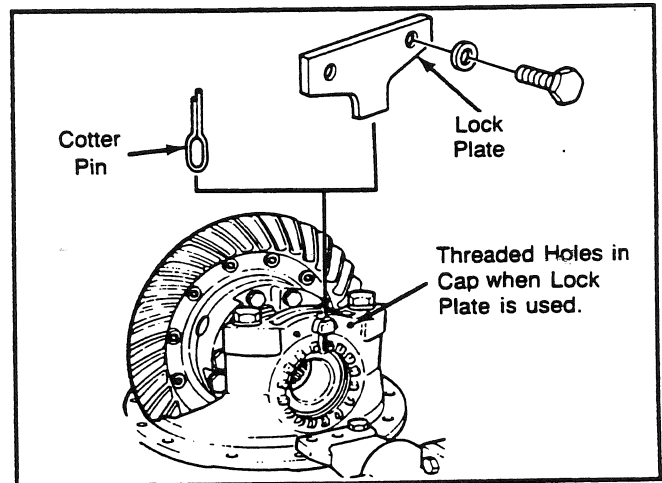

Fig. 88
- a) Install the cotter pin between the adjusting ring lugs and through the bearing cap boss. Bend the two ends of the cotter pin around the boss (see Fig. 88).
- b) Install the lock plate on the bearing cap so that the tab is between the adjusting ring lugs. Install the two bolts retaining the lock plate to the bearing cap (see Fig. 88). Tighten the bolts to the specified torque.